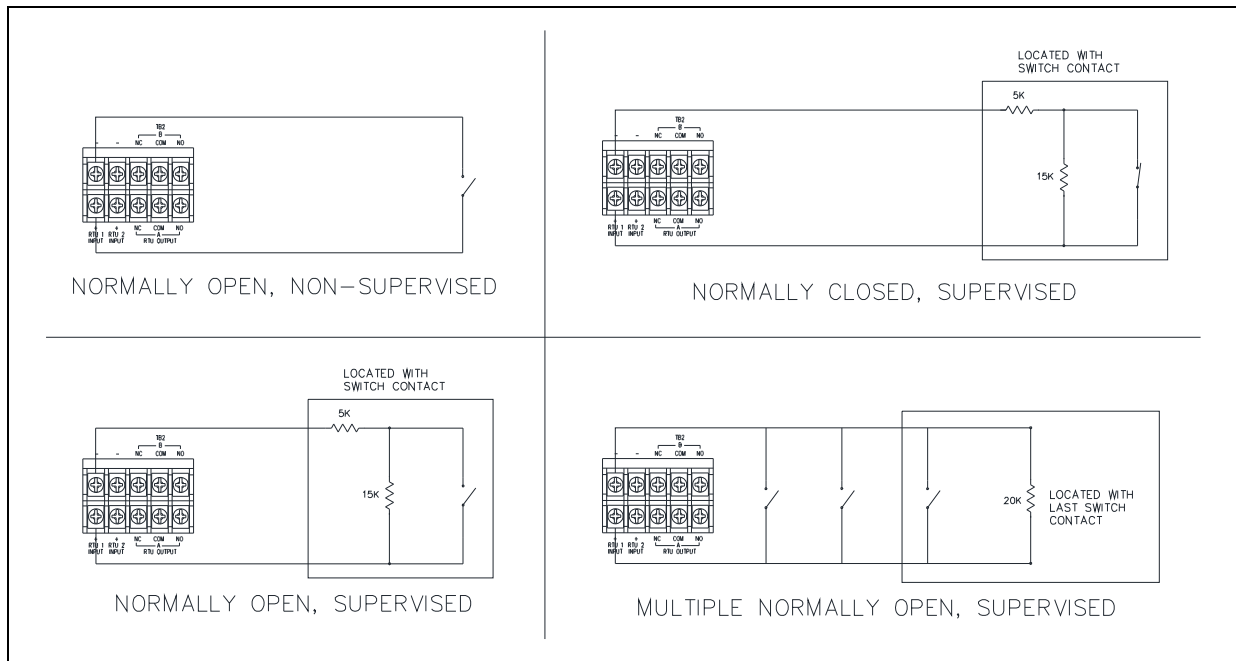

Figure 8. RTU Input Wiring Configurations for Cable Monitoring
5. Install end-of-line resistors (see Figure 8) to enable RTU input-cable monitoring.